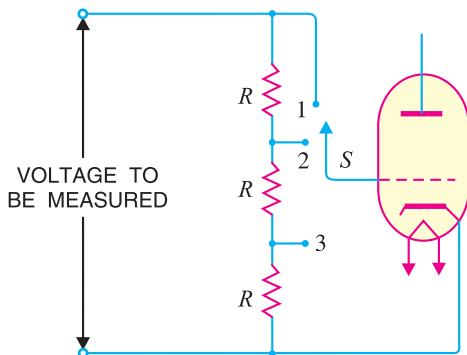

Fig. 22.13
**Range selection.** In practice, a VTVM is made a multirange instrument by employing a potentiometer at the input circuit as shown in Fig. 22.13. By throwing the range selector switch  $S$  to a suitable position, the desired voltage range can be obtained. Thus when the range selector switch  $S$  is thrown to position 1, the voltage applied to the grid is three times as compared to position 3. Although only three voltage ranges have been considered, a commercial VTVM may have more ranges.